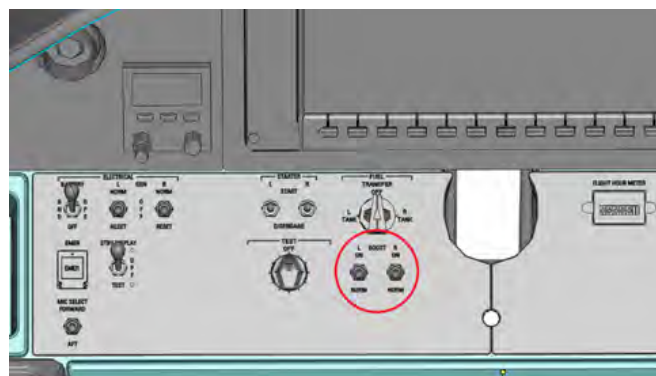

Figure 3
- Make sure FUEL BOOST L-R toggle switches are set to the NORM positions. Reference Figure 3 of this section.